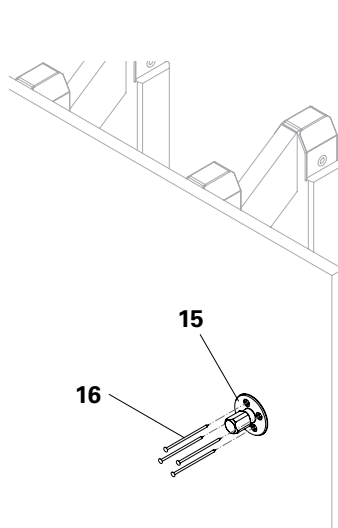

Fig. A2.16
1. Fix the Anchor Positioning Stud M24 (**15**) to the marked position using 4x wire nails 3 x 80 (**16**). (Fig. A2.16)